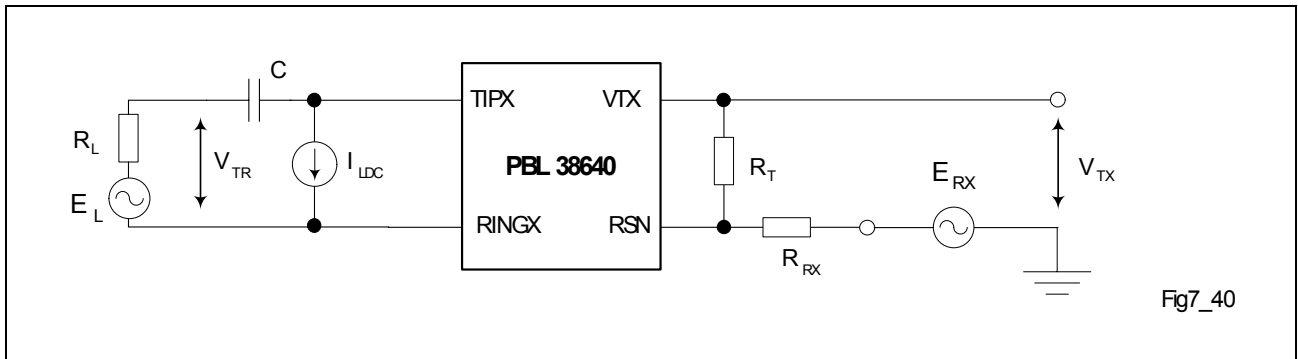

**Figure 7 Frequency Response, Insertion Loss, Gain Tracking**
- 8) The two-wire idle noise is specified with the port terminated in 600  $\Omega$  ( $R_L$ ), and with the four-wire receive port grounded ( $E_{RX} = 0$ ; see Figure 7). The four-wire idle noise at  $V_{TX}$  is specified with the two-wire port terminated in 600  $\Omega$  ( $R_L$ ). The noise specification is referenced to a 600  $\Omega$  programmed two-wire impedance level at  $V_{TX}$ . The four-wire receive port is grounded ( $E_{RX} = 0$ ).